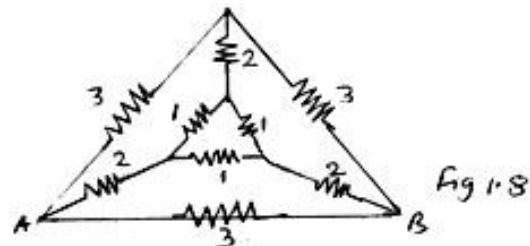

Fig 1.8
12. For the network shown in fig.1.8 , find the equivalent resistance between AB.